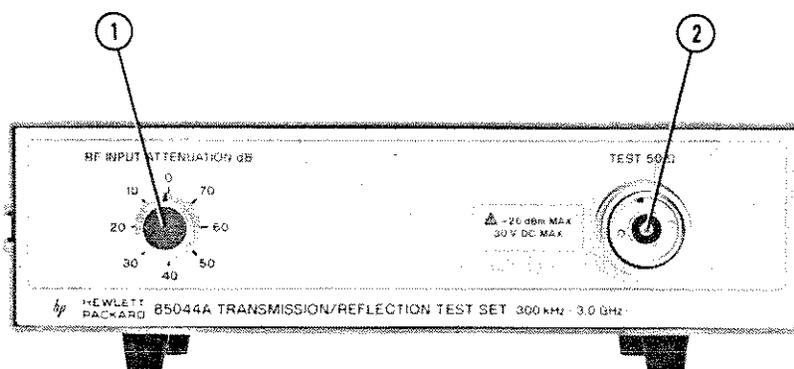
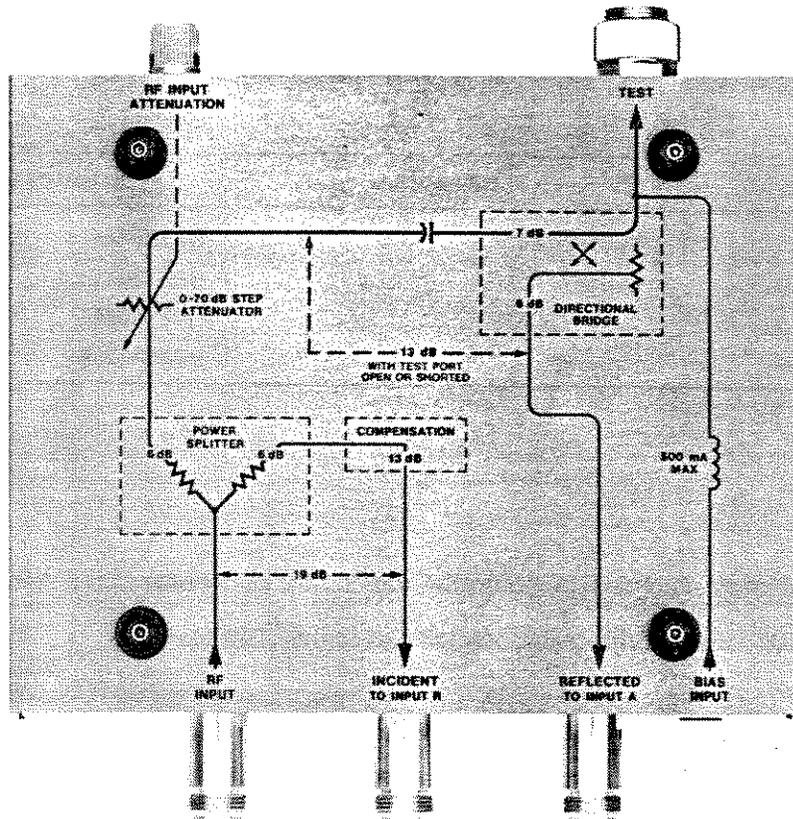
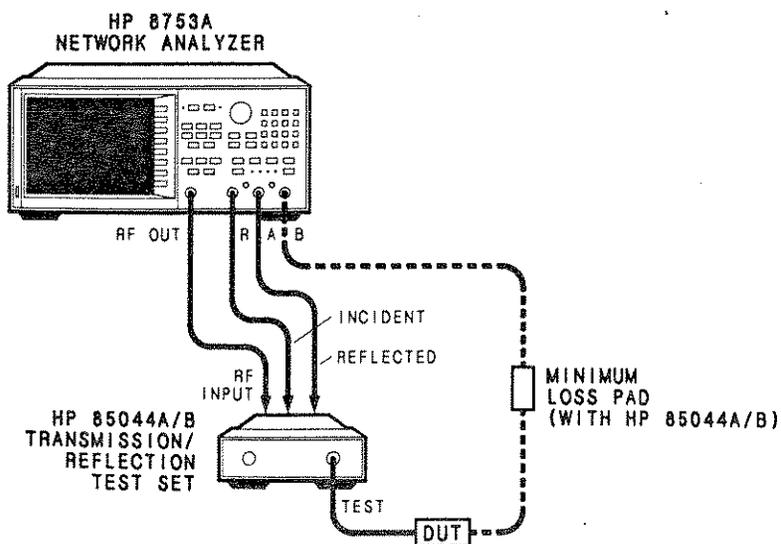

Figure 3-1. Front Panel Features.
Figure 3-3. HP 85044A Case Bottom Showing RF Signal Path.
Figure 3-4. Typical Measurement Setup.
This section illustrates the features and functions of the front and rear panels of the test set (Figures 3-1 and 3-2). Figure 3-3 shows the case bottom (which depicts the RF signal path through the test set). Figure 3-4 shows a typical test set measurement setup.
1. Connect the equipment as shown in Figure 3-4 but do not connect the DUT.